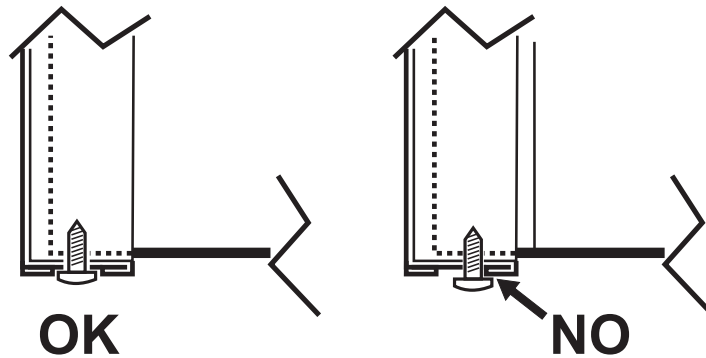

fig. 31 - Correct position of front panel
Proceed in reverse order to refit the front panel. Make sure it is located on the upper fastening and is correctly positioned at the sides. When tightened, the head of screw "A" must sit in the rebate (see fig. 31).
- Close the flow & return Isolation valves, & drain the water in the boiler "3" of fig. 31 " (see "System draining" on page 8).